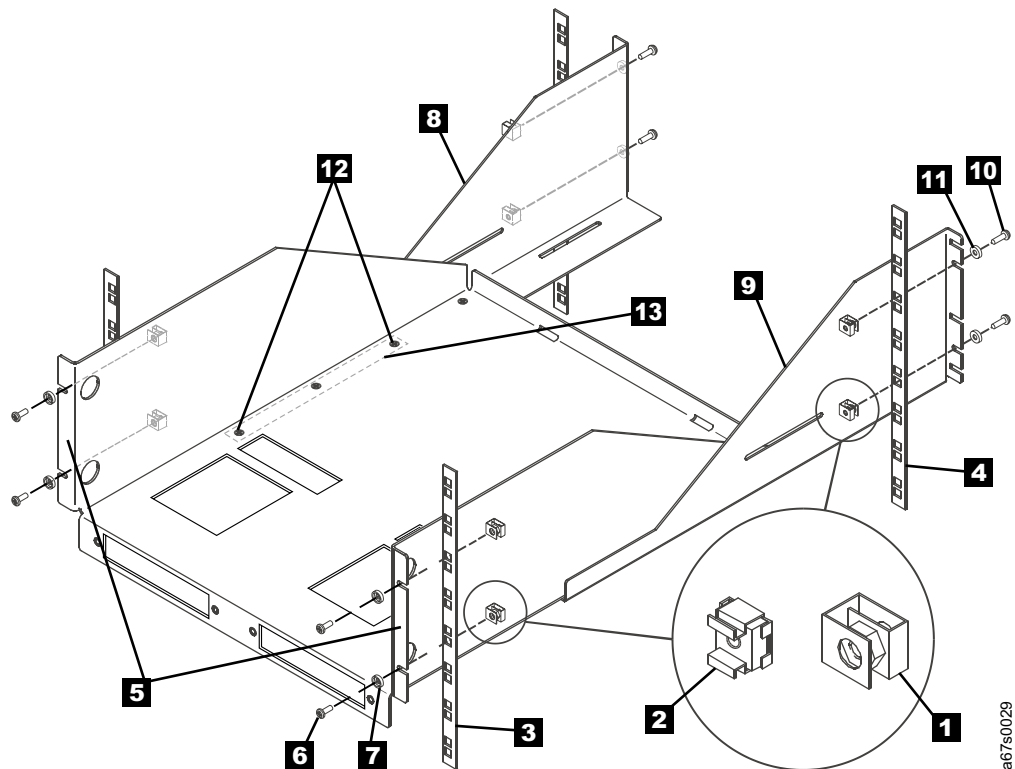

Figure 39. Installing the rackmount tray into the rack
5. On each of the rack's four vertical rails (Figure 39 on page 108 shows the two front rails **1** and the two rear rails **2**), install a panel nut (**3** or cage nut **4** at the bottom boundary.
Figure 39 shows both panel nuts and cage nuts, but you must only install one type of nut.